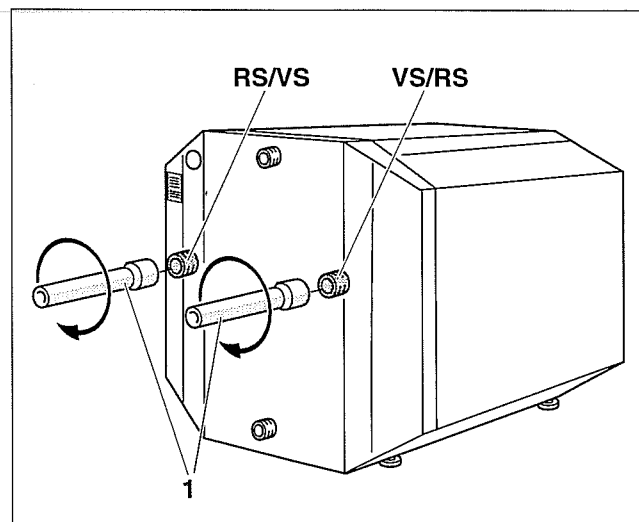

Fig. 7 Assembly of rear carrying pipe stubs
- Screw two 1" coupling on two pipe ends (Fig. 7, **Item. 1**).